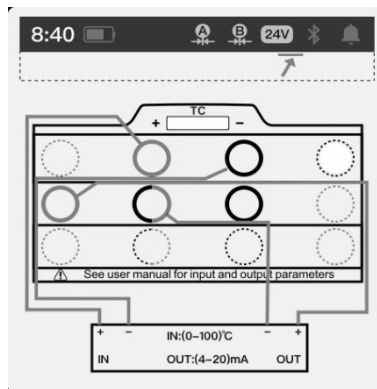

Figure 29 Temperature transmitter
- ◆ Connect the DUT with the measurement and output module of the calibrator, as shown in the Figure 29.